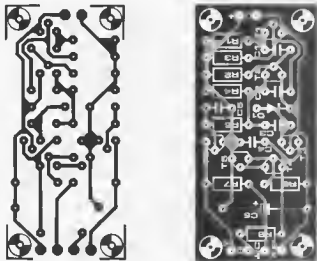

Figure 4. The printed circuit board of the curve tracer.
As mentioned above, diodes may also be tested. These are connected with the anode to R7 ( $\downarrow$ ) and the cathode to the supply zero (X). The I/U characteristics of the diode in question will now appear on the screen. Figure 4 shows the printed circuit board. It is highly compact and can be built in less than no time.